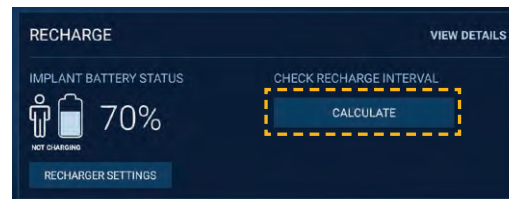

Figure 34. Recharge CALCULATE button
1. Tap **CALCULATE** found in the Recharge panel on the dashboard screen (Figure 34) to open the Recharge Interval screen.